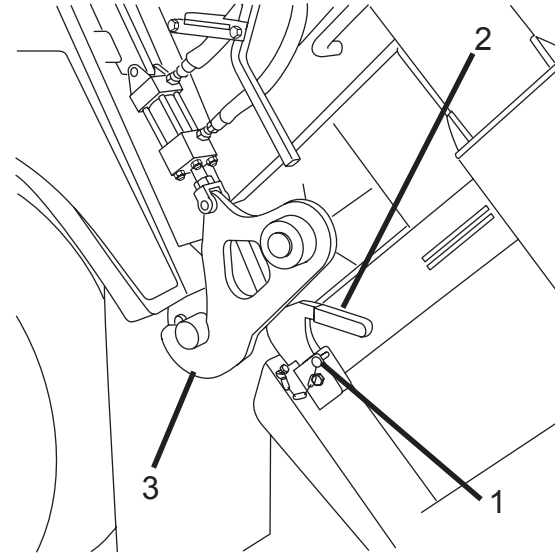

Figure 19
1. To unlock tailgate, remove the pin (Figure 19, Item 1) from latch (Figure 19, Item 2) and swing latch away from tailgate lock (Figure 19, Item 3). Repeat this step for the other side.